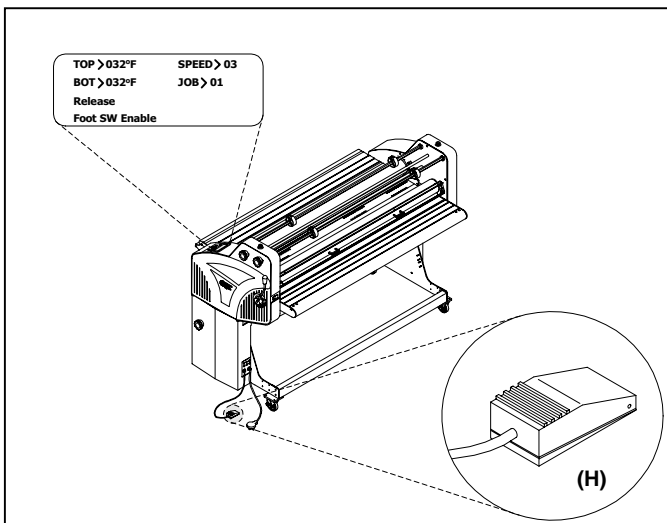

Fig. 12
**H. FOOT SW ENABLE:** (Figure 12) In this mode permits operation using the footswitch.